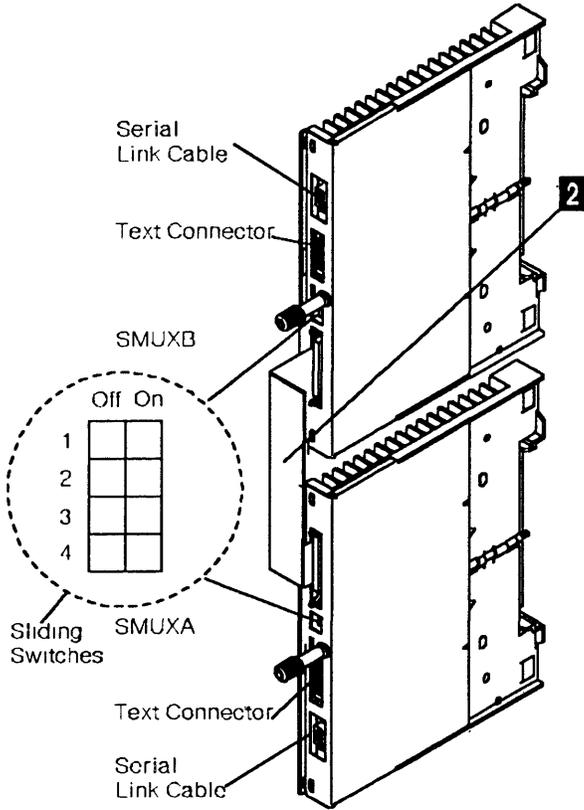

Figure 4-53. SMUX Link and Cable.
Refer to Figure 4-53 and do the following:
4. Set the XMIT level according to the table below. Refer to Figure 4-53 on page 4-39 for the sliding switches.